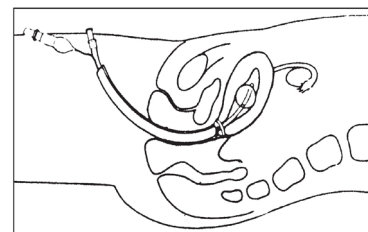

Figure 3—Complete insertion. Spring compressed and balloon inflated. Uterus manipulated toward anterior abdominal wall.
8. Continue insertion until the cervical disk compresses the spring completely to the previously adjusted depth setting. Then, WHILE STILL MAINTAINING FORWARD INSERTION PRESSURE, inflate the intrauterine balloon with the 5-10 cc of air contained in the plastic syringe. Note that the pilot balloon is expanded. It indicates that the intrauterine balloon is properly inflated. (The amount of inflation should be determined by clinical judgment as to the size of the uterus. Underinflation should be avoided since it reduces the degree of manipulatory control and defeats the air cushion protectiveness of the balloon. It may also allow spontaneous expulsion of the device through a large cervix). (See Figure 3)